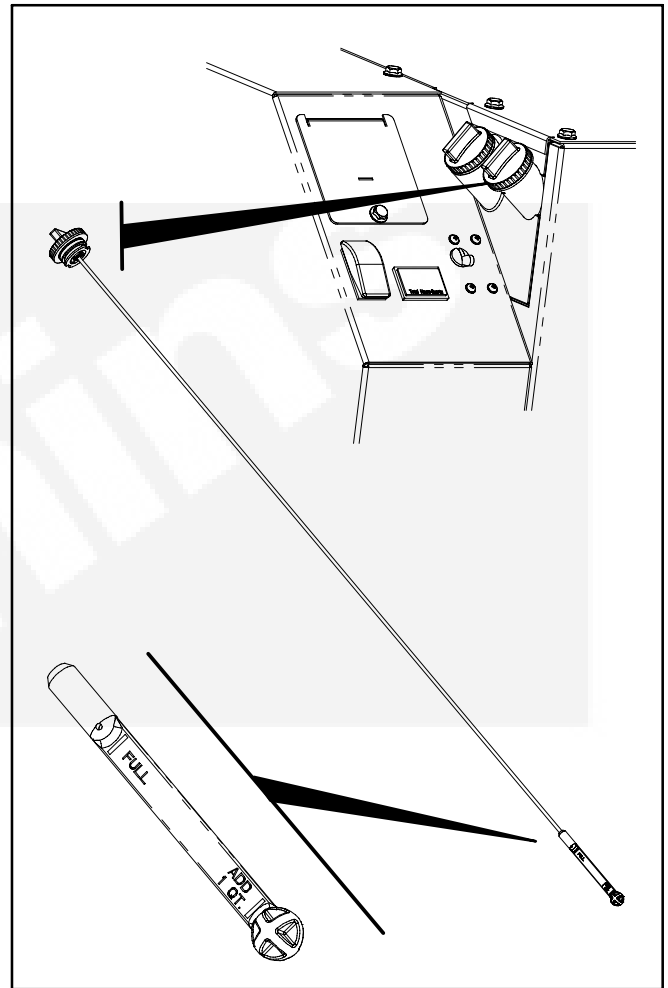

FIGURE 5-1. OIL DIPSTICK
1. Remove the oil fill cap (yellow) and wipe the stick clean (Figure 5-1).
2. Remove the oil fill cap (Figure 5-1).